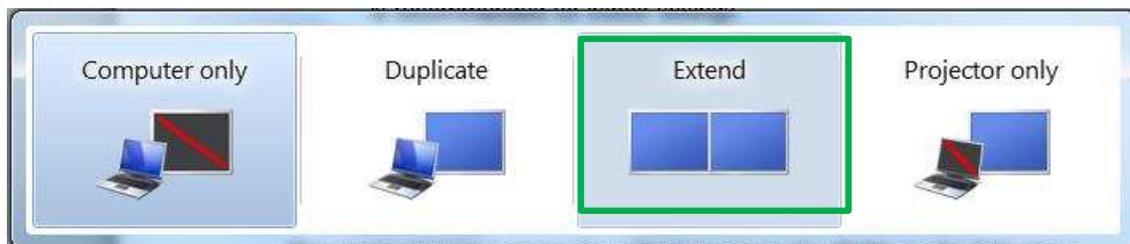

Figure 2-8. PC Video Output Mode Configuration
- Press "Windows + P" key combination, then select "Extend" as shown in Figure 2-8.